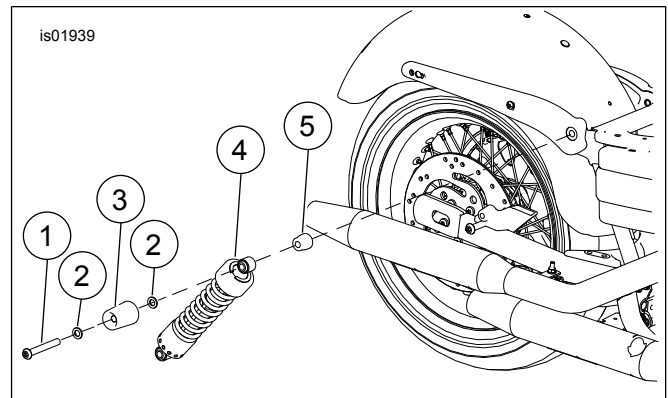

Figure 1. Remove Stock Rear Shock
1. See Figure 1. Remove the upper (1) and lower shock mounting bolts. Discard all the bolts, stock shock spacer (5), all washers (2) used on the upper shock bolt, and discard the upper chrome shock cover (3) on models equipped with upper shock covers.